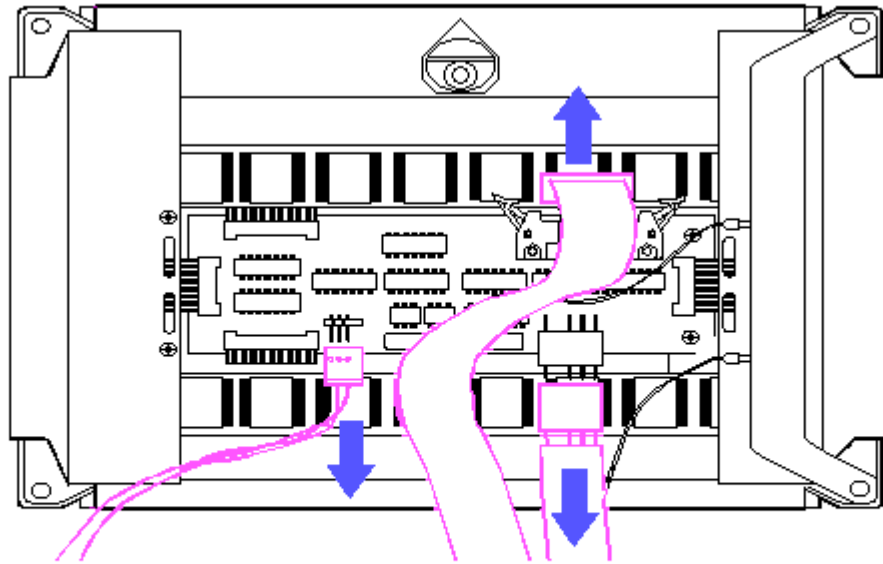

Figure 8-75. Disconnecting the Display Data Cable, Display Power Cable, and the Brightness Control Knob Assembly
10. Disconnect the display cable, display power cable, and the brightness control knob assembly from the plasma display (Figure 8-75).